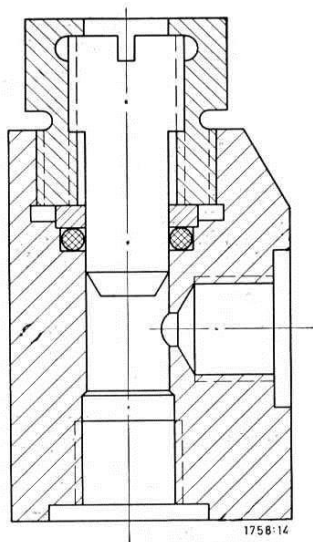

Fig. 21 - Flow controller
1. For temperature of the product pumped below 70°C, measured at the pump discharge nozzle, it is not necessary to cool the seal housing or the circulation liquid. Uncooked product is tapped from a stage casing (or exceptionally from the discharge casing) and fed into the mechanical seal via the circulation line and via the sealing cover (471), and returned to the inside of the pump. The rate of flow of the circulation liquid is adjusted by means of a flow controller (see Fig. 21).